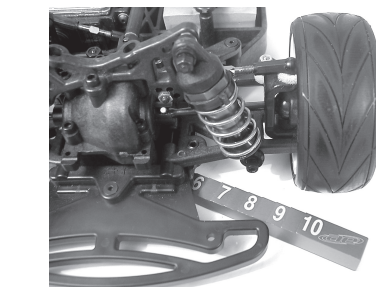

Fig. 4A, front
3. Slide the ride height gauge underneath the chassis, as shown in fig. 4A, until the gauge just touches the chassis. To get a measurement on the chassis and not the bumper, you might need to slide the gauge in the corner of the car as shown in fig. 4A. Check both corners of the front.